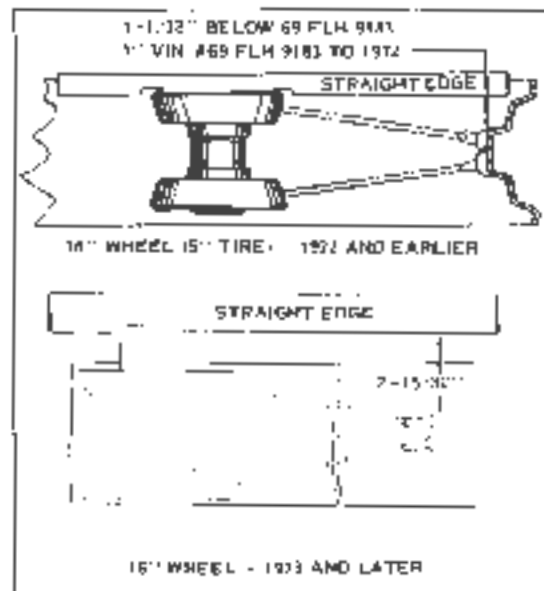

Figure 2-22 Centering Wheel Rim - 16 Inch
5. Rim must be properly centered sideways in relation to hub for correct alignment and "tracking" of front and rear wheels. Figures 2-22, 2-23 and 2-23A show method of using a straightedge to determine correct sideways centering of wheel rims as specified. Place straightedge across hub on brake side and measure the distance from straightedge to rim wall as shown. Note that late 1969 to 1972 Electra Glide models have rim laced off center. Rims 1973 and later are centered on hub which includes 098 wheels.